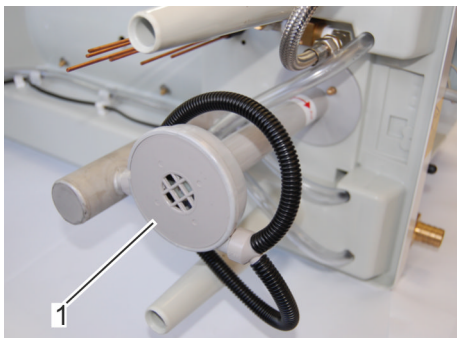

Fig. 45: Water pump
- ⇒ The water pump is located at the bottom on the right-hand side (Fig. 45/1).